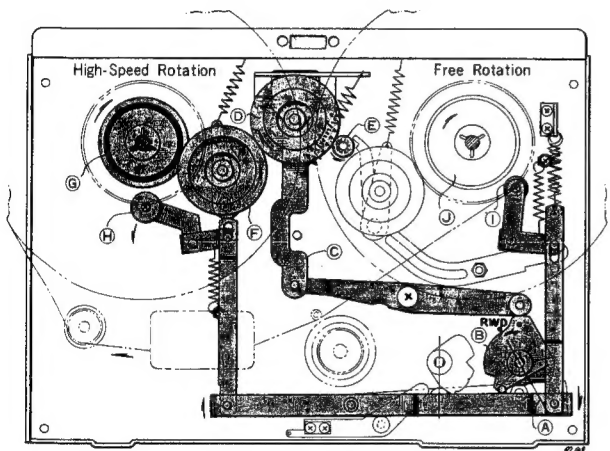

Fig. 4
Turning the *FAST FWD-REWIND knob* (A) to "REWIND" position, causes *cam* (B) under the knob to push up *Lever* (C). *Idler* (D) moves into the space between the upper part of the rotating *Motor drive bushing* (E) and the *Intermediate Pulley* (F) to transmit the high-speed rotation of the motor through the intermediate pulley to *Supply Reel Spindle* (G). At the same time, *Brake Rollers* (H) and (I) come off the reel spindle to free *take-up reel spindles* (J) and (G), thereby rewinding the tape onto the supply reel at a fast speed. (See figure 4)